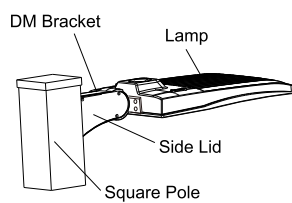

Figure 4
Step 2: Put the connected wire into the junction box, then cover the junction box. (Figure 4)